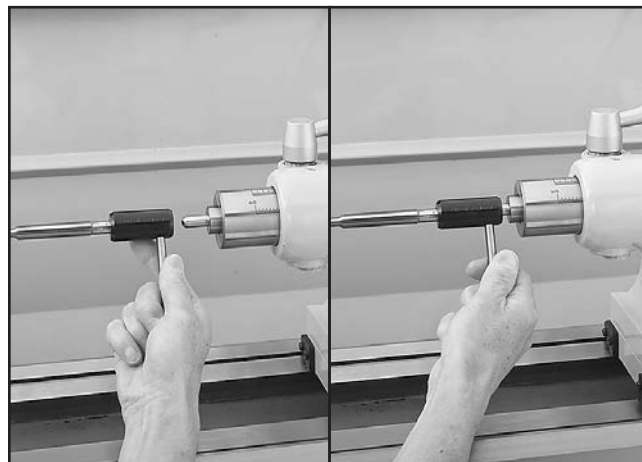

Figure 3. Inserting the dead center into the reamer holder using the tailstock.
6. Move the tailstock forward until the rounded end of the dead center begins to enter the reamer holder (see **Figure 3**).